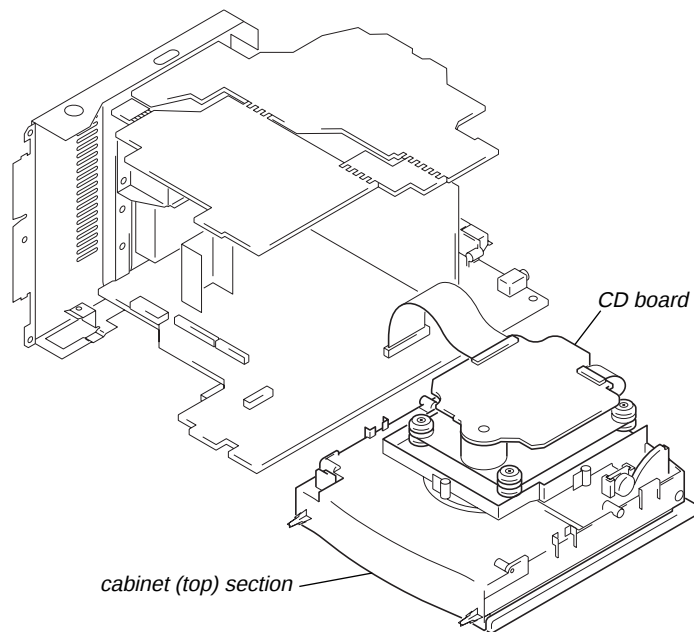

**Fig.1 Method to push the S820**
2. Push the S820 as shown in Fig.1.